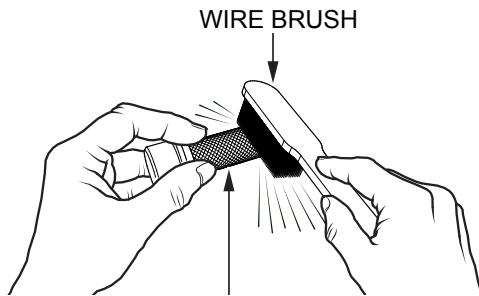

Figure 49. Cleaning Spark Arrester
2. Carefully remove carbon deposits from the spark arrester screen (Figure 49) with a wire brush.